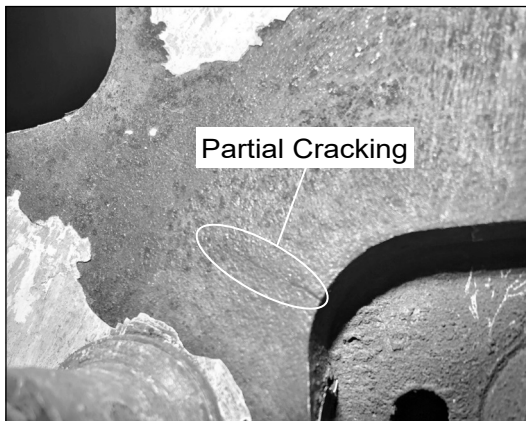

Figure 2 – Partial Cracking Example
- Partial cracking means a visible crack anywhere in the narrow section that extends only part way across the width or part way through the thickness of the plate (refer to Figure 2).